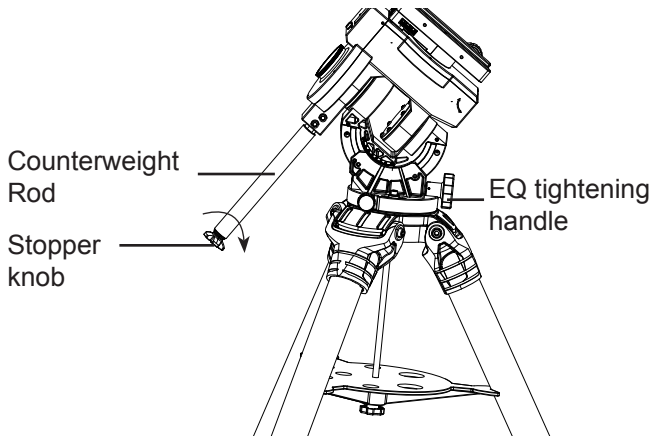

Fig. 1.3a
1. Screw the counterweight rod into the mount as shown in Fig. 1.3a (\*\*).